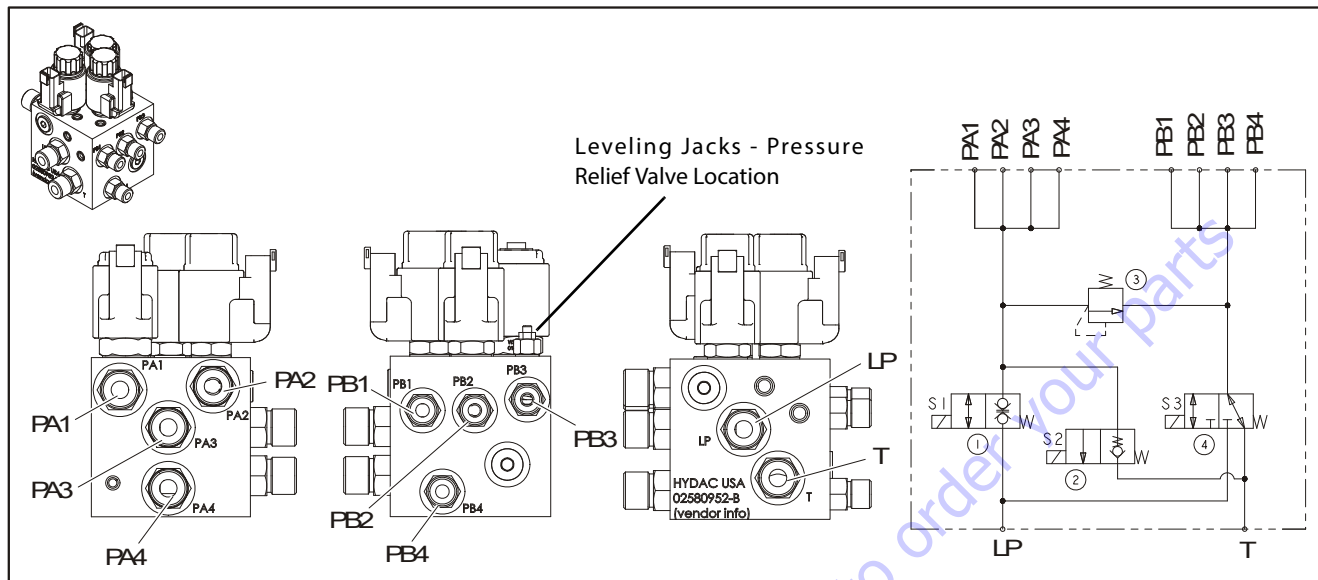

Figure 2-21. Leveling Jacks Directional Valve
8. Adjust the relief valve located on the leveling jack directional valve (refer to Figure 2-21.) clockwise to increase, counter-clockwise to decrease. (The relief valve is on the same face as the solenoid valves).